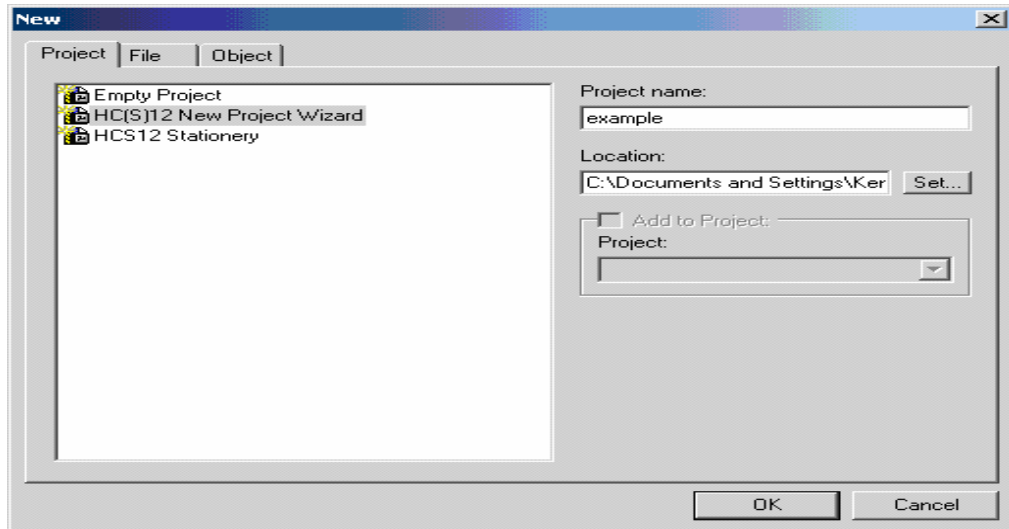

Figure 2
- d. **Figure 2** - The New dialog box will popup. Under the Project tab: